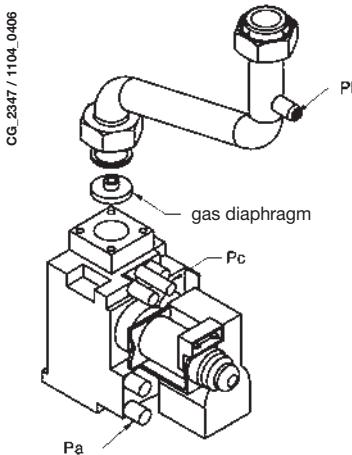

Figure 10
- replace the gas membrane located on the gas valve (figure 10). The diameter of the membrane is specified in table 2.
- connect the positive pressure test point of a differential pressure gauge (possibly water-operated) to the gas valve pressure test point (**P_b**) (Figure 10). Only for models with sealed chambers, connect the negative pressure test point of the manometer to a "T" fitting in order to join the boiler adjustment outlet, the gas valve adjusting outlet (**P_c**) and the pressure gauge. (The same measurement can be made by connecting the pressure gauge to the pressure test point (**P_b**) after removing the front panel of the sealed chamber);
- make sure that the dynamic inlet pressure of the boiler, measured at the gas valve pressure test point (**P_a**) (Figure 10) is correct (37 mbar for propane or 20 mbar for natural gas).
If the natural gas inlet pressure is too low (less than 17 mbar) remove the gas diaphragm installed over the gas valve (fig. 10) and set parameter **F02=00** on the electronic board (§21).
- adjust the "Pmax/Pmin" screw (figure 10) to set the burner pressure value as described in table 1.
- To adjust pressure at maximum power, turn the "Pmax" screw (fig. 10) clockwise to increase or anti-clockwise to decrease pressure at the burner.
- To adjust pressure at minimum power, turn the "Pmin" screw (fig. 10) clockwise to increase or anti-clockwise to decrease pressure at the burner.